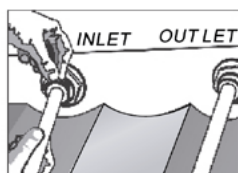

FIGURE 9
7. Pull the ferrule and insert the blue clamp until it lock (Fig. 9 and 10).
- Pull the ferrule and insert e-clamp until it lock (Fig. 9 and 10).